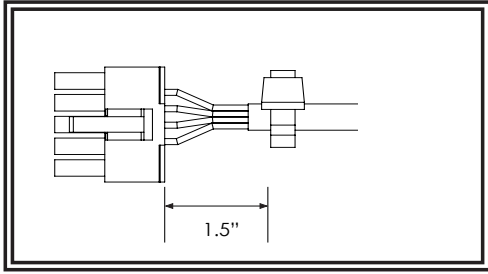

FIGURE 5
5. Place zip-tie 1.5" from base of the connector shown in Figure 5. Zip-tie must be not be able to slide on cord. Trim excess zip-tie.